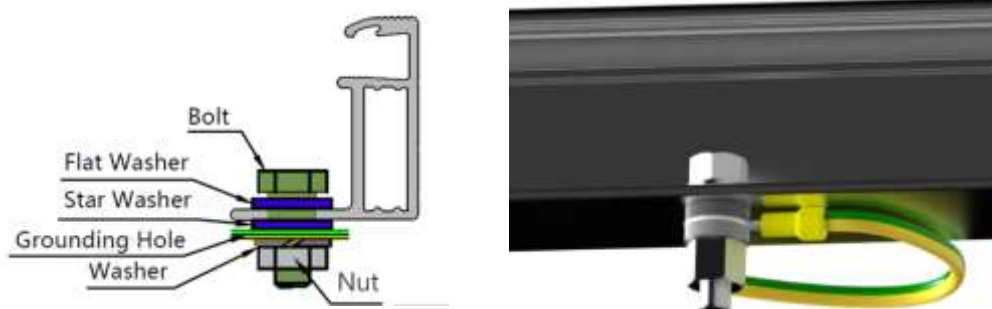

Figure 11. Grounding hole with bolts
- There are grounding holes with a diameter of 4mm on the long side of the back frame of the module, by the edge part. The grounding hole on the frame is marked with typical grounding symbol ($\equiv$) according to IEC 61730-1:2023 standard. These holes can only be used for grounding with bolts, so cannot be used for module installation. This method includes bolt, flat washer, star washer, washer and nut (see Figure 11) . The bolts should be tightened when grounding is installed. The frame of the module must not be punched with additional holes and no damage should be done to the module frame or the grounding wire.